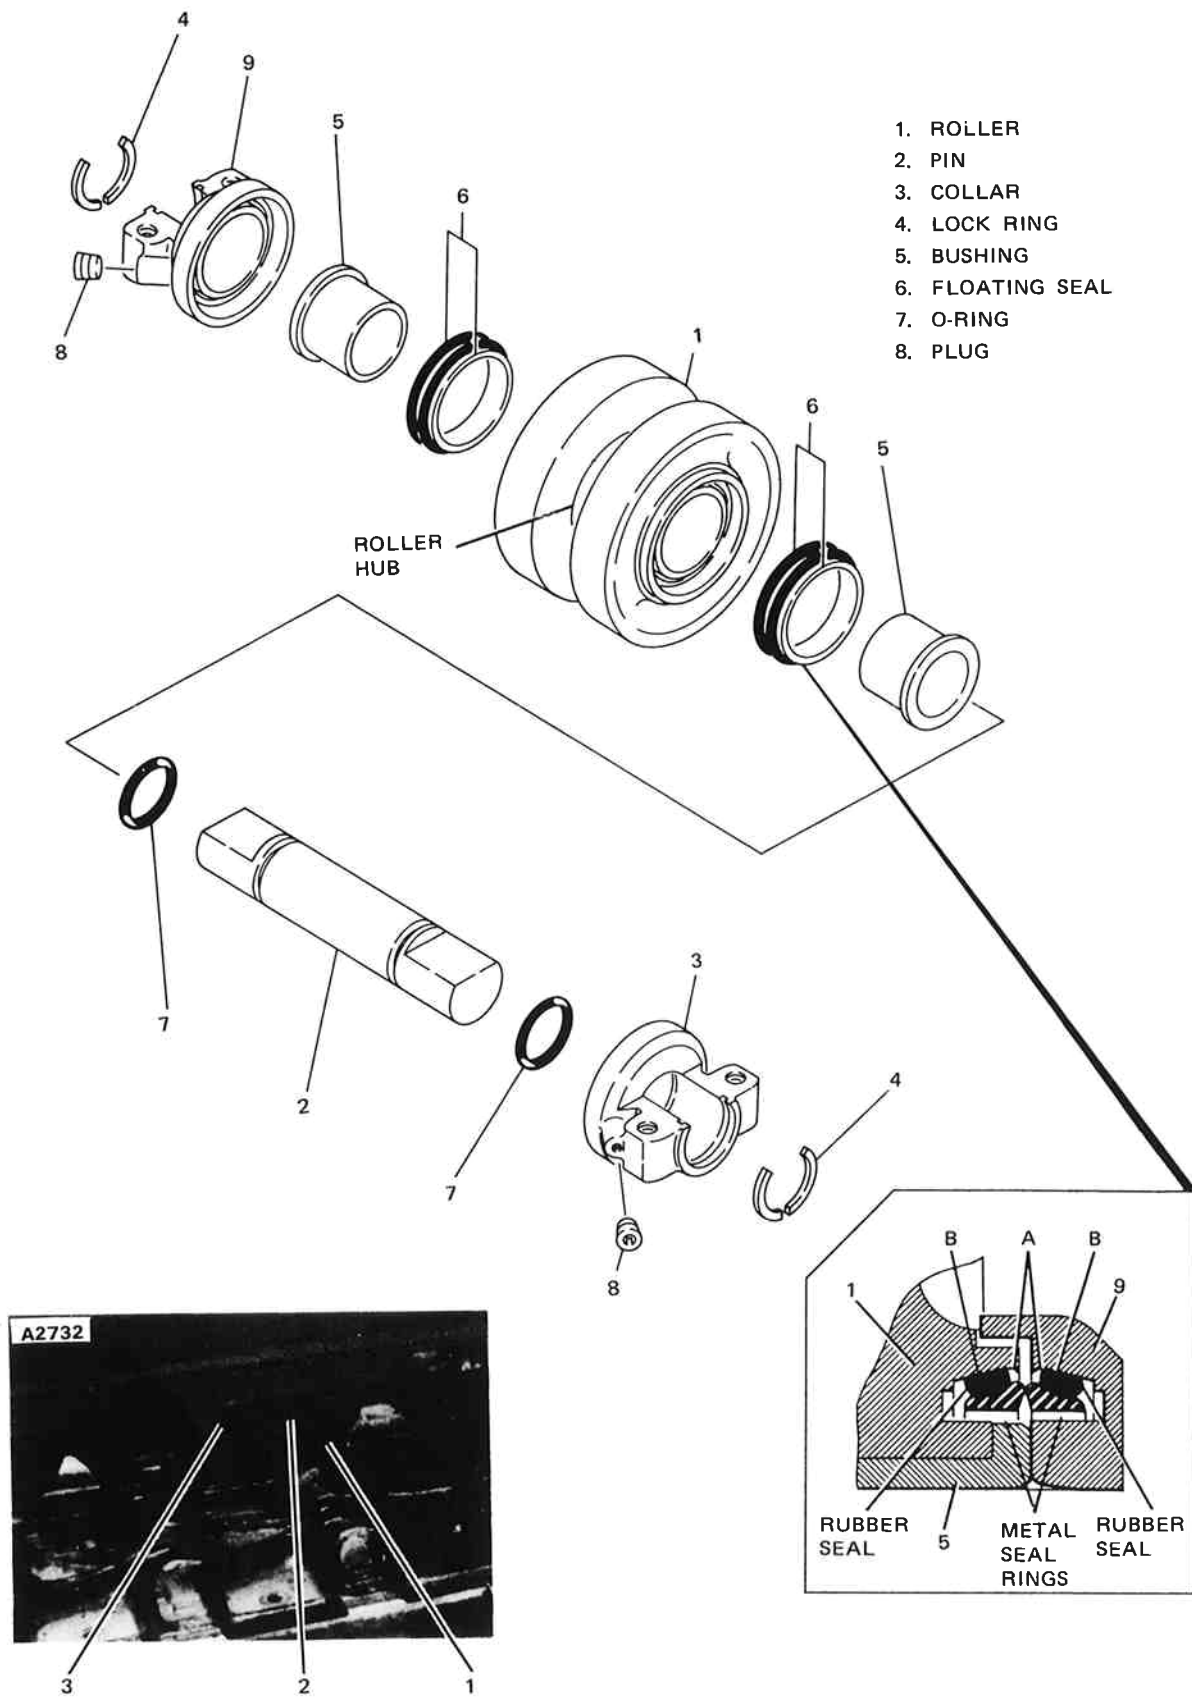

Fig. 10 Crawler Roller
- 2) The crawler roller weighs approximately 60 kg (132 lbs). Support the roller so that it will not fall, and remove the capscrews which secure the roller collars (3) to the crawler side frame (see Figure 10). Remove the roller from the side frame.
It is recommended that all floating seals and O-rings be replaced whenever a roller is disassembled. To repair a crawler roller, proceed as follows (see Figure 10):
To assemble the crawler roller, proceed as follows (see Figure 10):